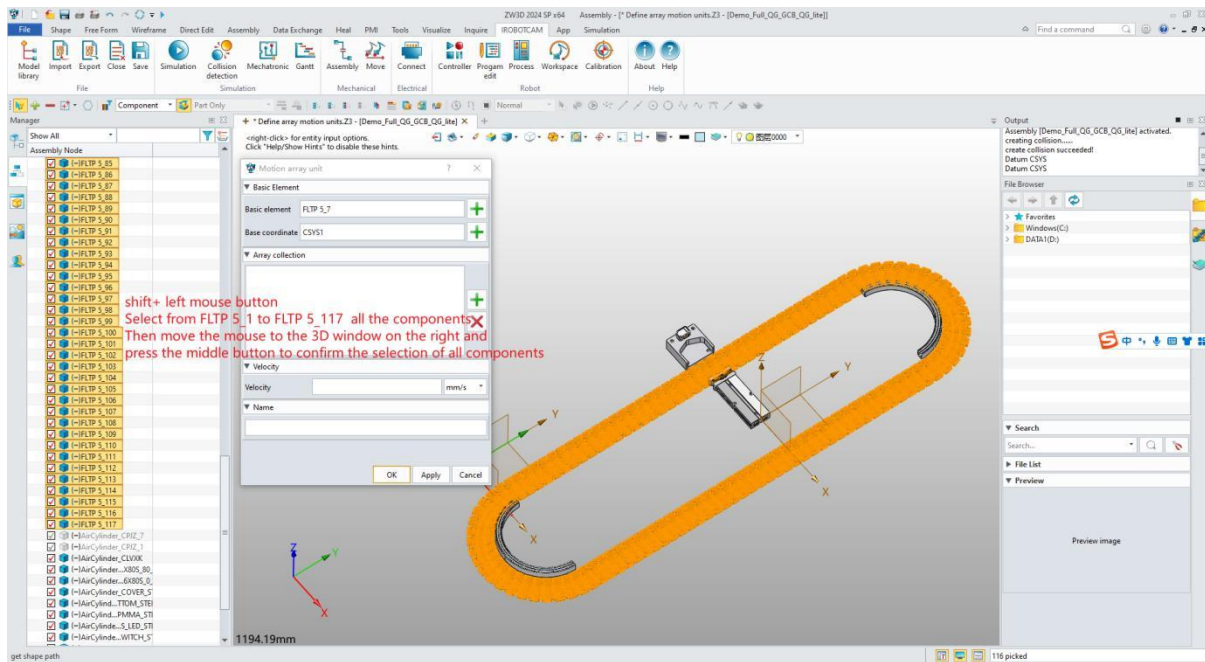

Figure 7-11: Array Elements
- Carefully highlight and select each element within the 3D viewport by pressing the middle mouse button. (Figure 7-11)